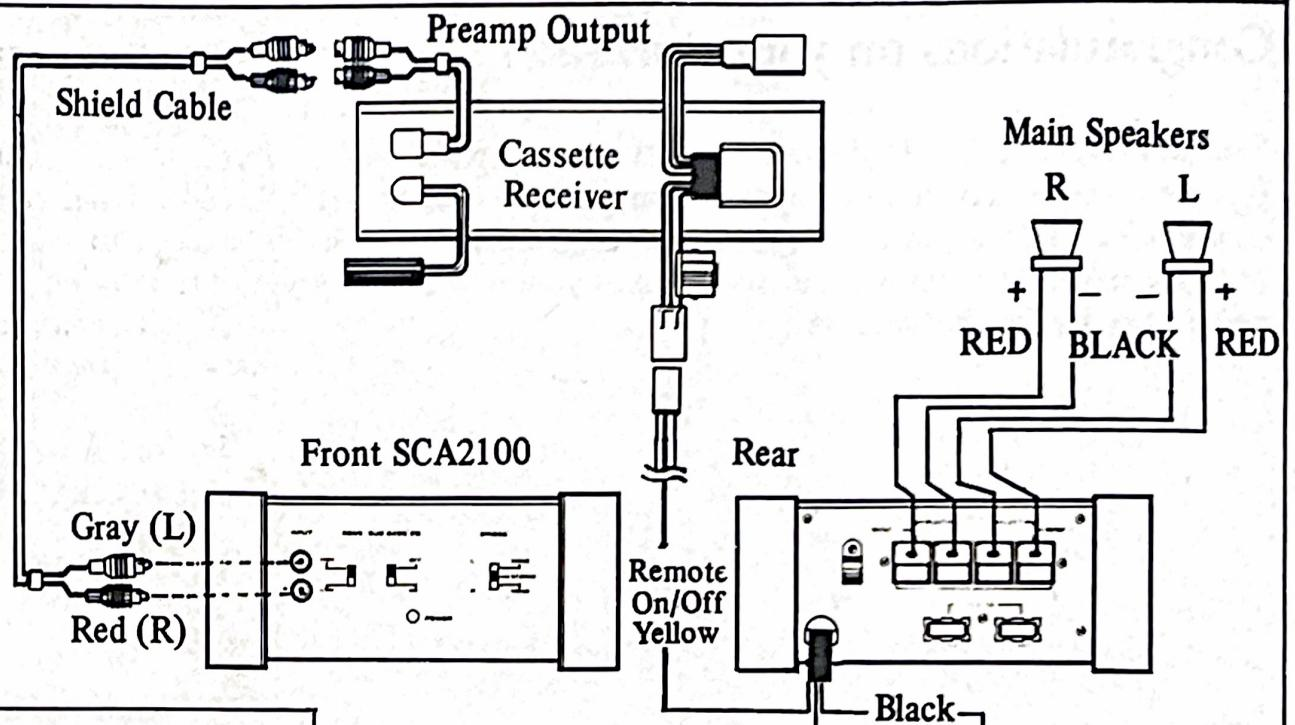

Fig. 2 On-Chassis Mounting
2. Once the proper location is secured, use a felt tip pen to outline the 4 holes to be drilled for mounting (Fig. 2).